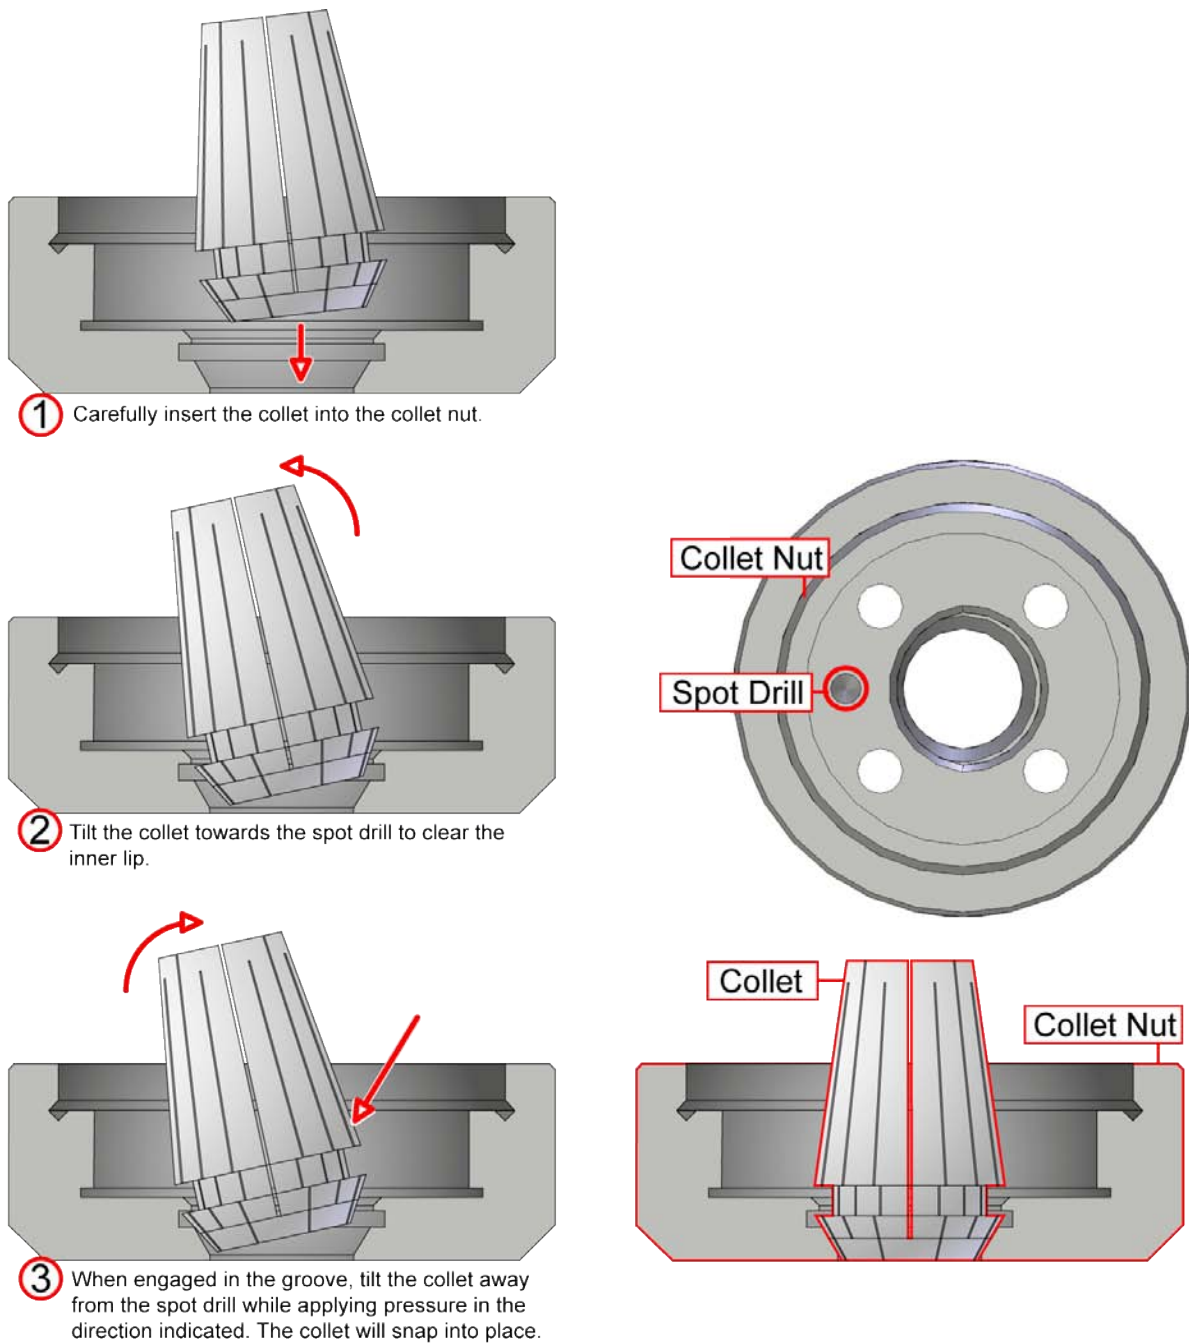

Figure 2-3: Installation of Collet into Collet Nut
5. Noting the orientation of the spot drill on the back side of the collet nut, refer to the instructions in Figure 2-3 to install the collet.